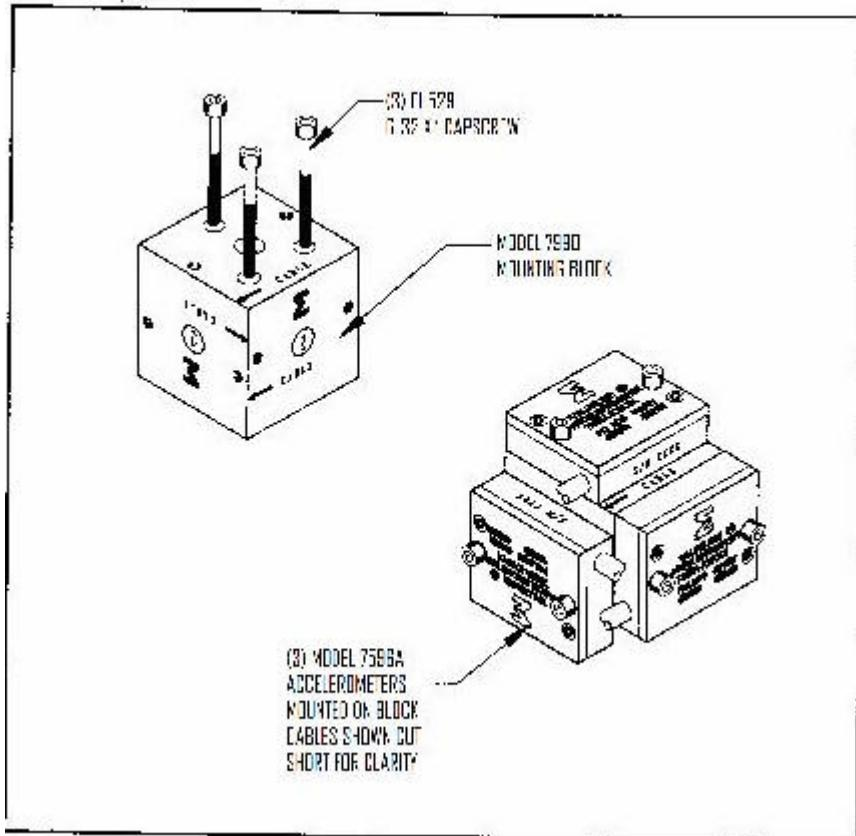

FIGURE 2- Installation of (3) Model 7596A Valuline Accelerometers onto Model 7990 Triaxial Block
7. For triaxial acceleration measurements, the Model 7990 Mounting Block is attached to the mounting surface with three (3) 6-32 x 1 inch socket head cap screws as shown in Figure 2, with subsequent attachment of the (3) Model 7596A Valuline Accelerometers per steps 2 through 6 above.